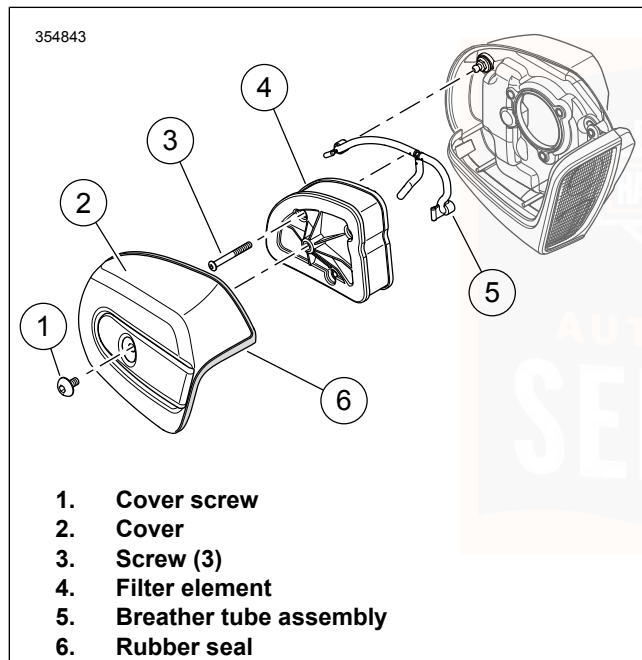

Figure 82. Air Cleaner Assembly
1. See Figure 82. Remove screw (1) and air cleaner cover (2) with rubber seal (6).
2. Remove three screws (3).
3. Remove filter element (4) pulling breather tube from hole on inboard side.
4. Remove breather tube (5) from breather bolts.
- See Figure 82. Install breather tube (5) onto breather bolts.
- Install filter element (4) while pushing breather tube into element.
- Install screws (3). Tighten screws to 40–60 **in-lbs** (4.5–6.8 N·m).
- Verify that rubber seal (6) is not damaged and is properly seated around perimeter of air cleaner cover.
5. Place air cleaner cover onto backplate. Apply a drop of **LOCTITE 243 MEDIUM STRENGTH THREADLOCKER AND SEALANT (blue)** to the threads of screw (1). Install screw. Tighten to **36–60 in-lbs (4.1–6.8 N·m)**.